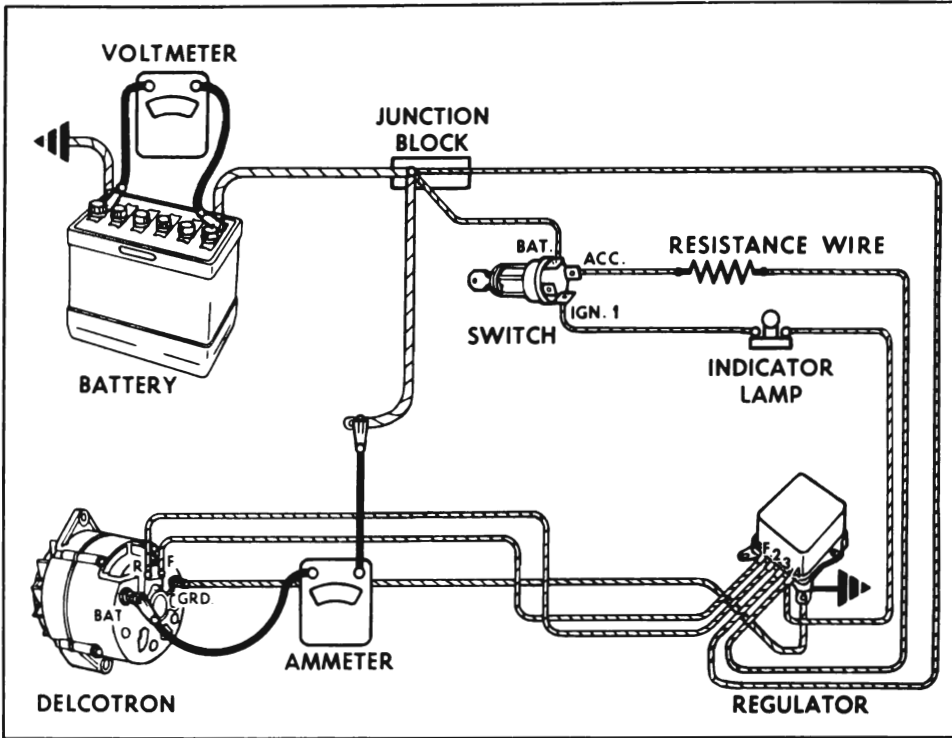

Figure 10-24—Delcotron Generator Tests
3. Connect ammeter between generator "BAT" terminal and disconnected lead as shown in Figure 10-24.
1. Test current output as described above. See Figure 10-24. Leave all test instruments in place, but make sure field jumper is removed, if used.